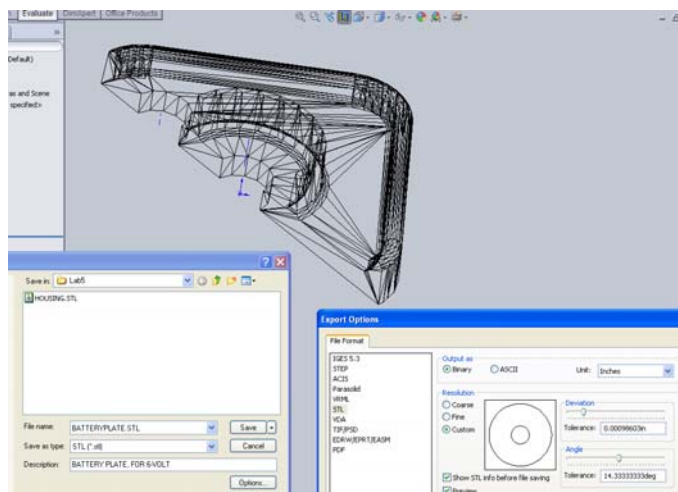

Figure 1 Shows STL file of sectioned Battery Cap from Lab 4
3.2.6. Note that if you wish to 3D print a section view as shown in Figure 1 you will have to create a SW feature to slice away the material as the standard section view tool will not work.